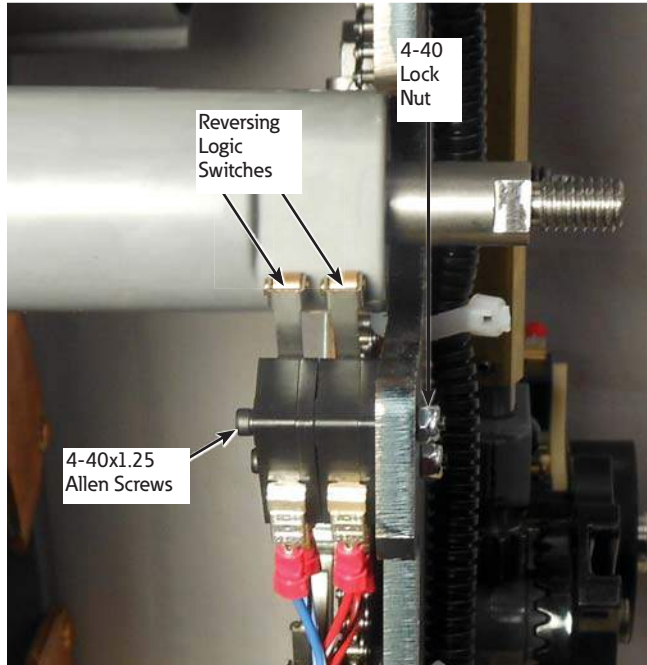

Figure 19. Reinstalling logic switches
23. Place the mounting hardware onto the reversing logic switches and fasten to the tap-changer front plate. Use a 3/32" Allen wrench and 1/4" socket wrench to tighten the nuts to a torque of 4–5 in-lbs (0.5–0.6 Nm). See Figure 19.